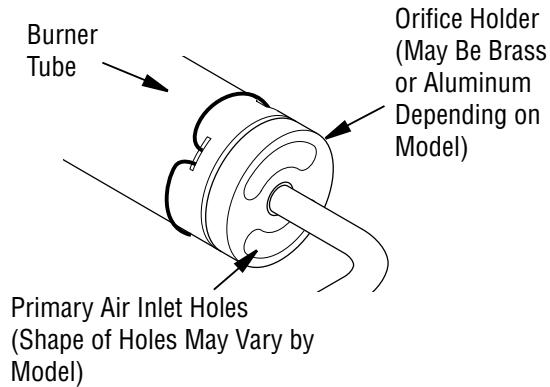

Figure 48 - Orifice Holder On Outlet Burner Tube
2. Inspect burner, pilot and primary air inlet holes on Orifice holder for dust and dirt (see Figures 48 and 49, Page 21).